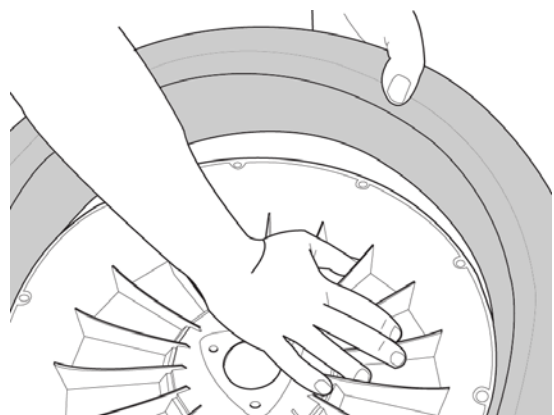

Figure 4-12: Remove or Install Tire
If replacing tire, work outside bead over inside of wheel to remove tire completely. See Figure 4-12.
- To install new tire (use Segway part number 20543-00001), seat outside bead on wheel by hand before installing tube (Figure 4-12).